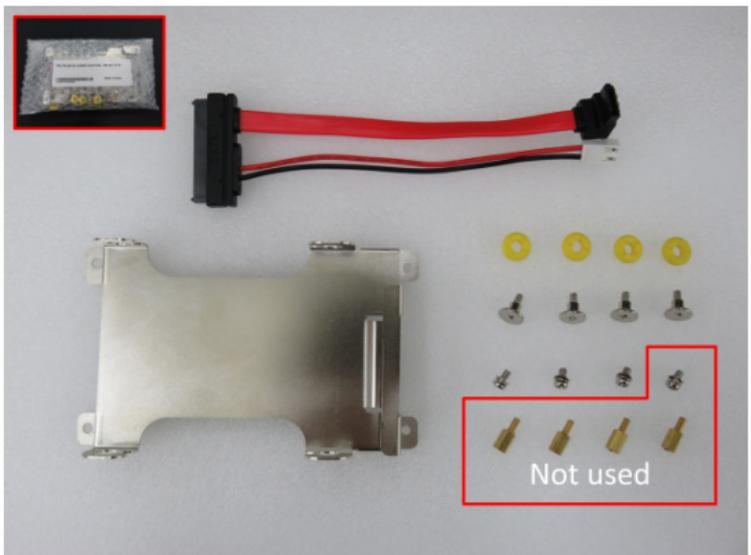

Figure 12
4.2.1.1 Arrange all the components from the hard disk installation package as shown in Figure 12.